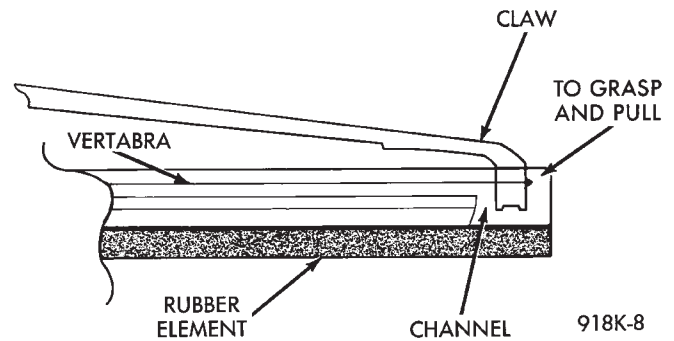

Fig. 4 Wiper Blade and Element
- Third type: grasp rubber element where channel is rubber and pull rubber element and vertibra out for replacement (Fig. 4).
(5) For installation reverse above procedures.
(6) Check each release point for positive locking when installing blade element and blade assembly on vehicle.